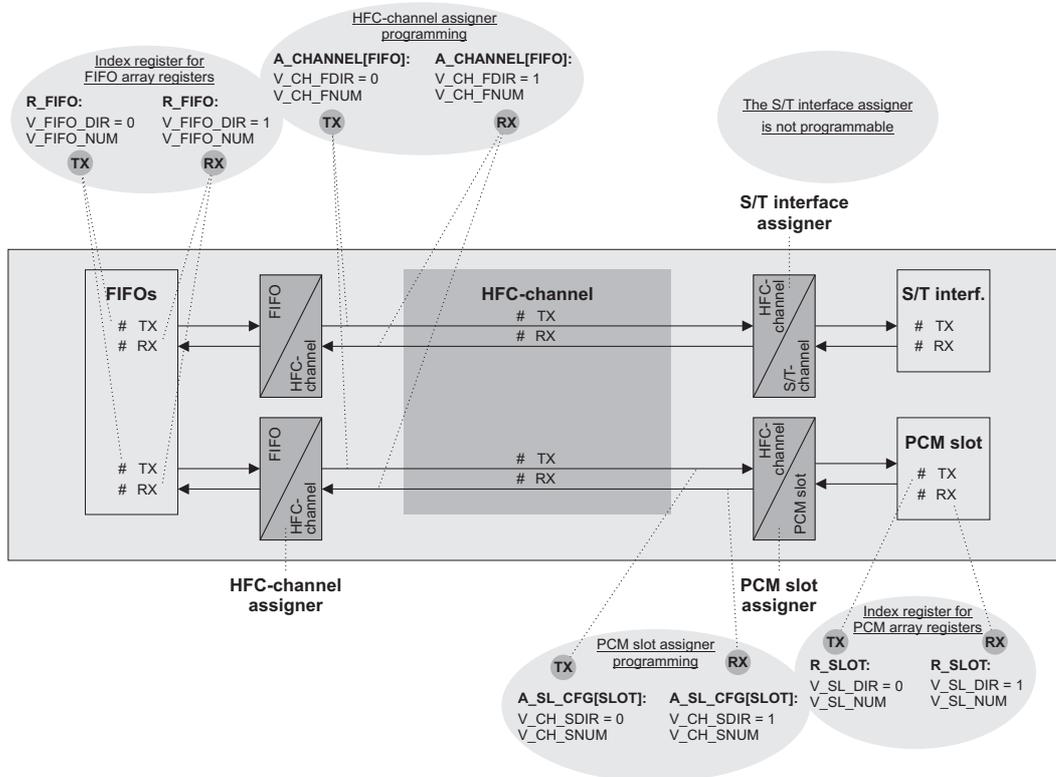

Figure 3.5: Overview of the assigner programming
The three different assigner types of HFC-4S/8S are shown in Figure 3.5. Assigner programming is always handled with array registers. This can be a FIFO array register or a PCM slot array register.
- The HFC-channel assigner programming depends on the data flow mode which is described in Section 3.4. This section explains in what cases the assigner is programmable and how this can be done. Figure 3.5 gives a hint, that the programming procedure is handled with the array register `A_CHANNEL[FIFO]`. Please see section 3.4 for details and restrictions.